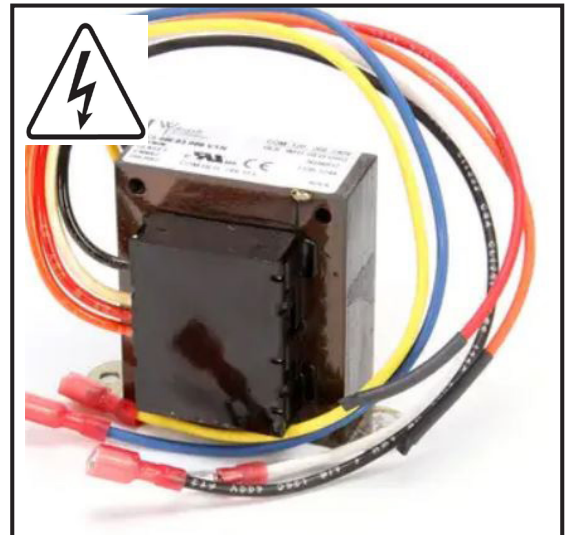

Fig 7.1B
3. Locate transformer and note the location of the wires and their terminals, disconnect wires (Fig 7.1B).